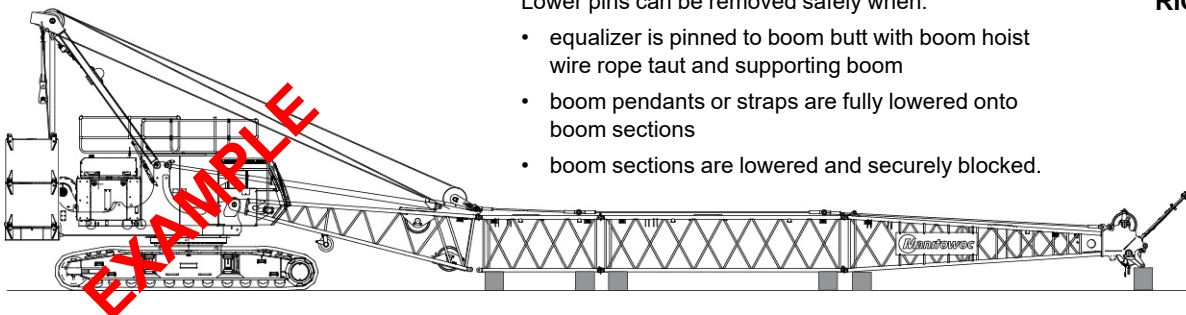

Figure 2-3. Boom Disassembly
- Do not remove bottom connecting pins from any boom section when boom is supported by pendants as shown in Figure 2-3, View A.
- Do not remove pendant connecting pins until pendants are fully lowered onto boom sections as shown in Figure 2-3, View C.
- Do not remove bottom connecting pins from any boom section when boom point is resting on ground or blocking and boom rigging is slack as shown in Figure 2-3, View B.
- Never work or stand inside boom unless it is lowered and securely blocked as shown in Figure 2-3, View C.